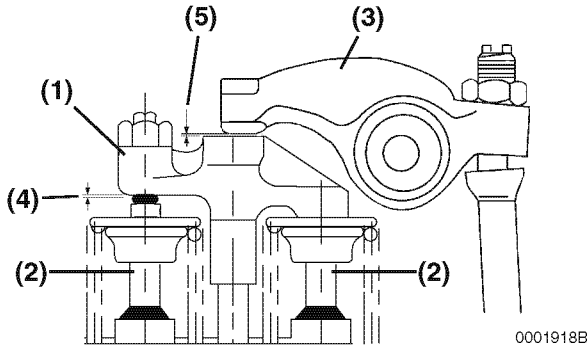

Figure 6-80
The 4-valve cylinder head operates two valves with a single rocker arm by employing a valve bridge (Figure 6-80, (1)) between the two valves (Figure 6-80, (2)). Clearance (Figure 6-80, (4)) between the valve bridge and valves must be set before adjusting the clearance (Figure 6-80, (5)) between the rocker arm (Figure 6-80, (3)) and valve bridge.
3. Make sure there is clearance (Figure 6-80, (5)) between the valve bridge (Figure 6-80, (1)) and the rocker arm (Figure 6-80, (3)).